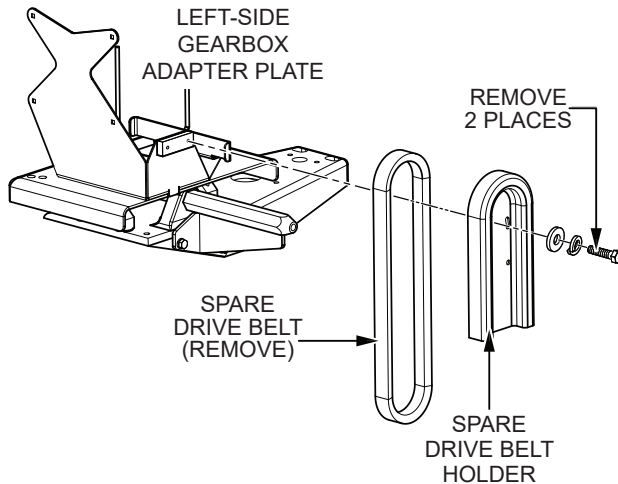

Figure 33. Spare Belt Removal
1. To replace an existing drive belt with the spare drive belt, remove the two bolts that secure the spare belt holder to the left-side gearbox bracket (Figure 33). Take care to not contaminate the replacement drive belt with grease or dirt.